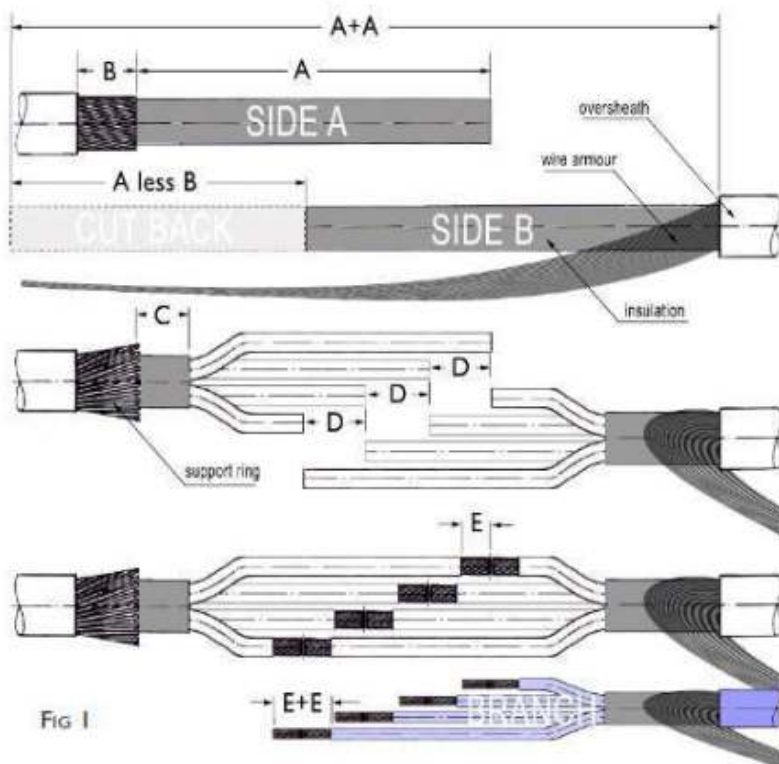

FIG 1
- Remove insulation from each conductor according to the Fig. 1.
Connect and insulate one set of conductors at a time starting at one side (if the conductors have been staggered according to Fig. 1).